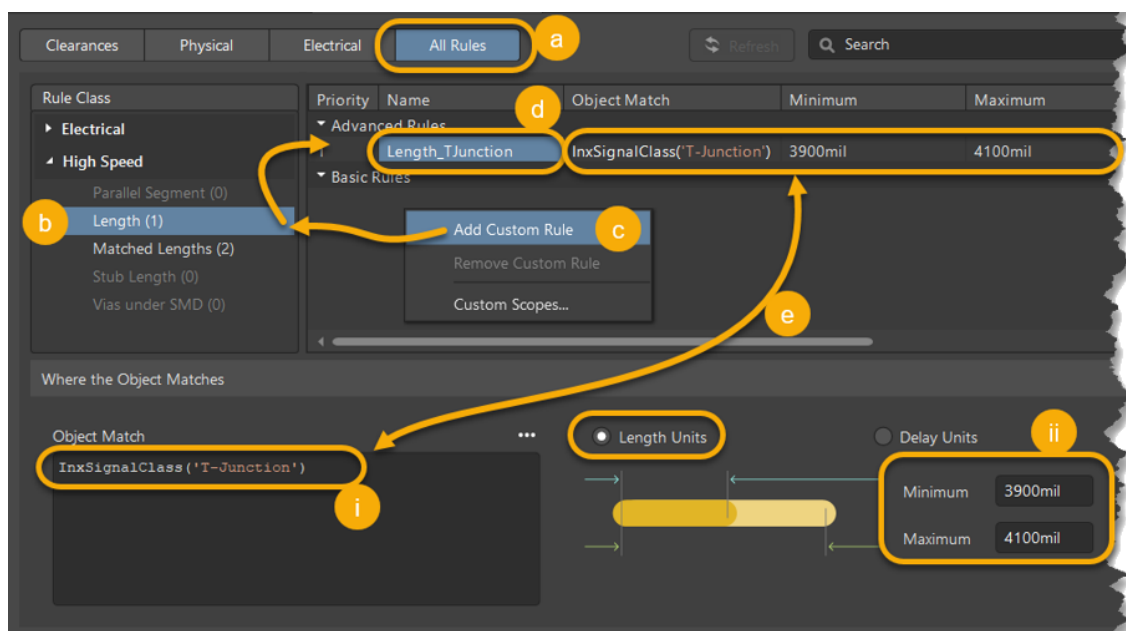

Figure 25. *Length_TJunction* rule
- e) Configure the rule with the following parameters, using Figure 25 as a reference.